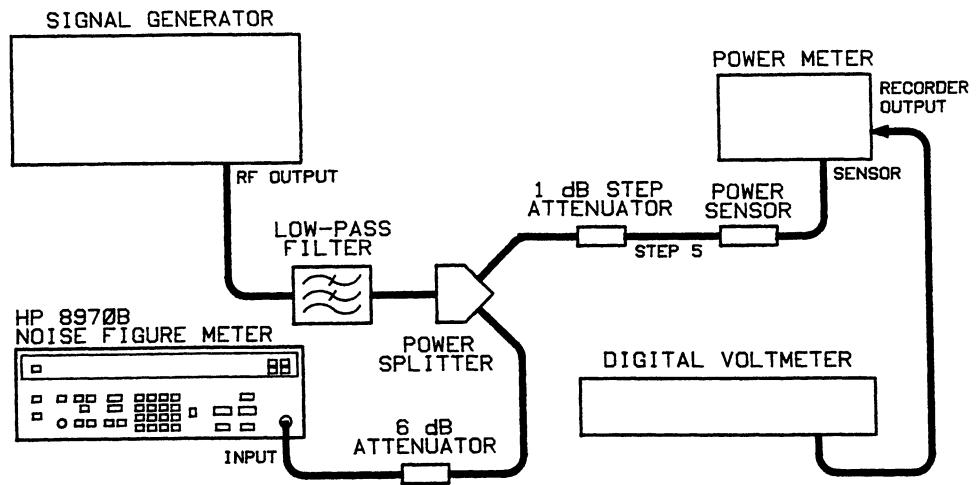

Figure 4-2. Noise Figure Instrumentation Accuracy Test Setup
1. Connect equipment as shown in Figure 4-2, except do not connect the power sensor to the step attenuator.
5. Zero the power meter and set the 1 dB step attenuator to 10 dB. Connect the power sensor to the 1 dB step attenuator as shown in Figure 4-2.